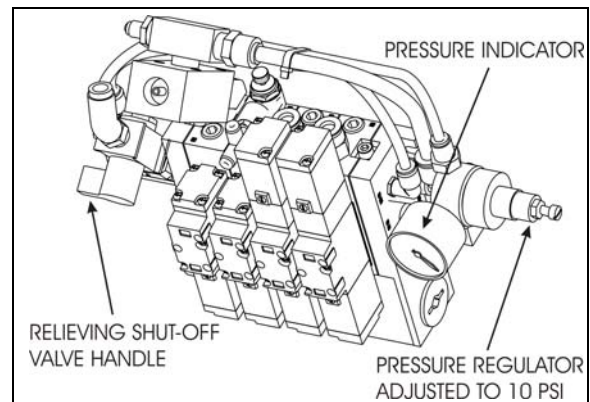

FIGURE 91: INFLATABLE SEAL RELIEVING SHUT-OFF VALVE
2. Deflate the inflatable seal by using the relieving shut-off valve located on the pneumatic component panel (FIGURE 91).
3. Deflate the inflatable seal by using the relieving shut-off valve located on the pneumatic component panel (FIGURE 91). Turn the handle clockwise to deflate the seal. Make sure the pressure indicator reading is “0 psi”.